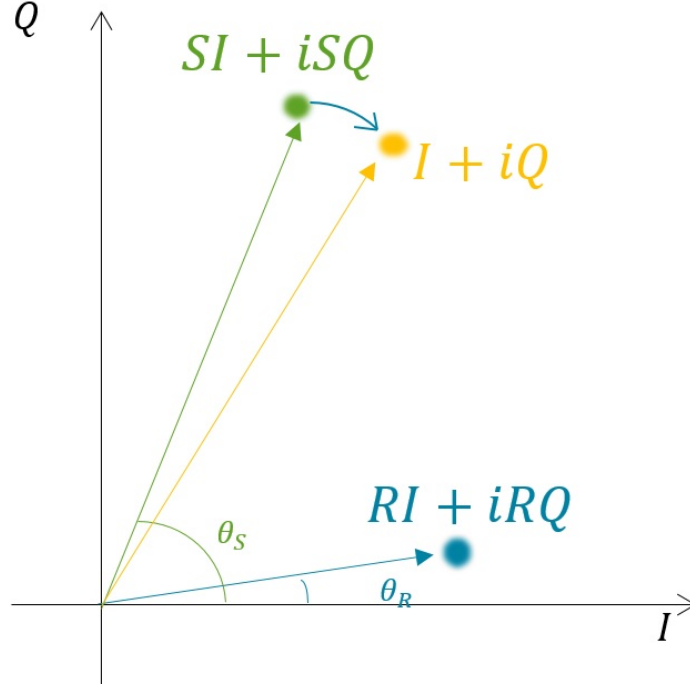

Figure 6: Rotation
- 4. Rotation** As shown in Fig. 6.